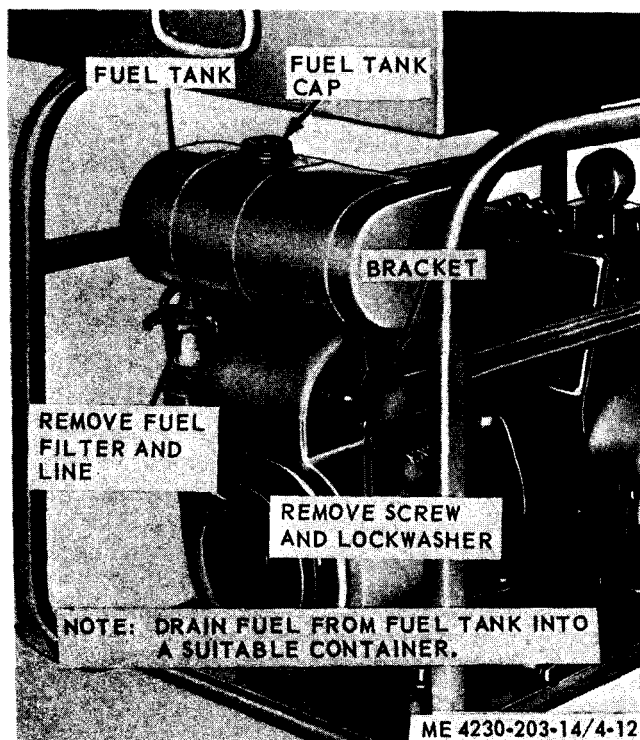

Figure 4-4. Fuel tank and bracket, removal and installation.
- (1) Remove the fuel filter (para 4-4).
- (2) Refer to figure 4-4 and remove the fuel tank and bracket.
- (1) Refer to figure 4-4 and install the fuel tank and bracket.
- (2) Install the fuel filter (para 4-4).